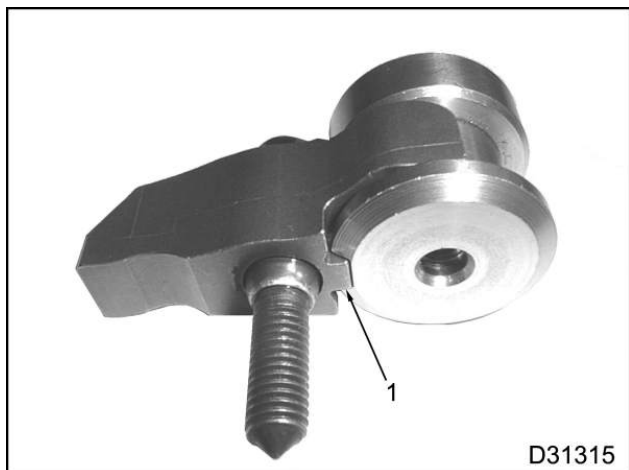

Figure 5 Hold Down Clamp and Valve Spring Compressor Base
5. Insert the valve spring compressor base into a new injector hold down clamp. Be sure the **notch in the valve spring compressor base aligns with index feature (Figure 5)** on hold down clamp. Install assembly between the valve bridges as if installing an injector.